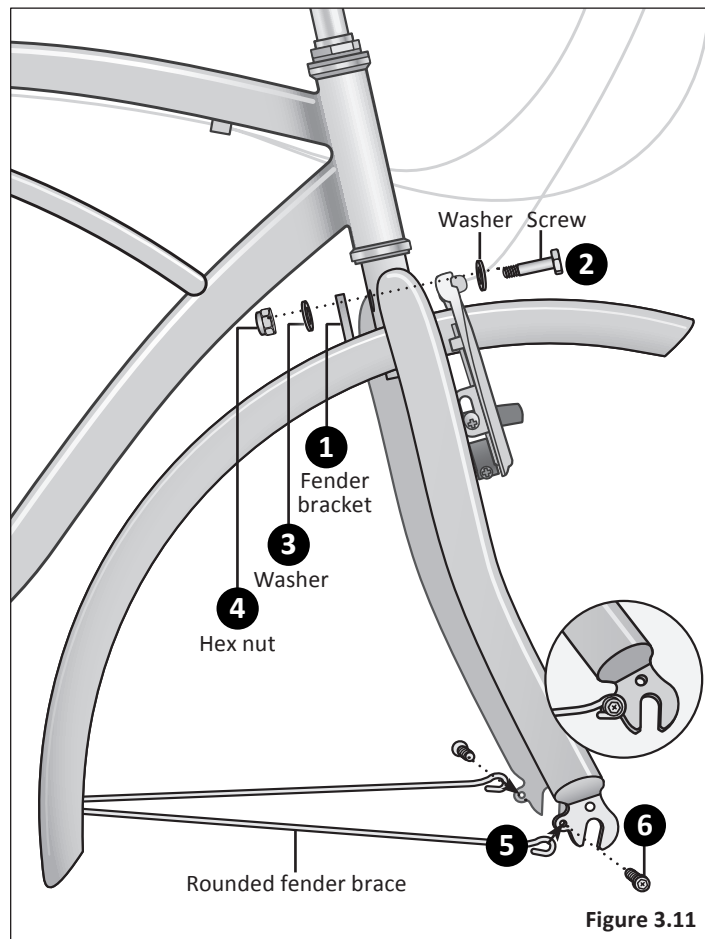

Figure 3.11
- ❶ Position the front fender so the fender bracket is on the inside of the frame. The fender is attached to the fork crown. Align the hole in the bracket to the hole in the fork crown. **Figure 3.11**
- ❷ Place a washer on the screw and insert the screw through the holes in the bracket and fork crown.
- ❸ Place a washer on the screw.
- ❹ Place the hex nut on the screw and tighten.
- ❺ Place the rounded fender braces over the small hole on the back of the fork dropout.
- ❻ Insert the small screws through the rounded fender brace and screw into the fork dropout.
- ❼ Position the fender and loosely tighten the screws.
- ❽ Attach the wheel and firmly fasten the fender in place.